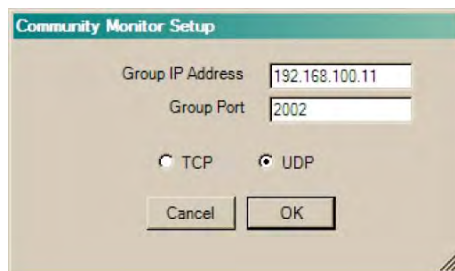

Figure A-2. Community Monitor Setup Dialog Box
1. Click **Options > Setup** to pop up the **Community Monitor Setup** dialog box (Figure A-2).